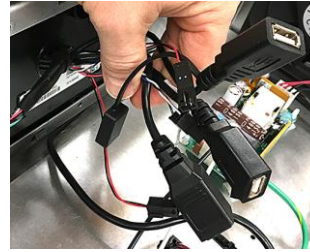

Figure 8
9. Disconnect all cables from the failed touch screen controller (see Figure 8).